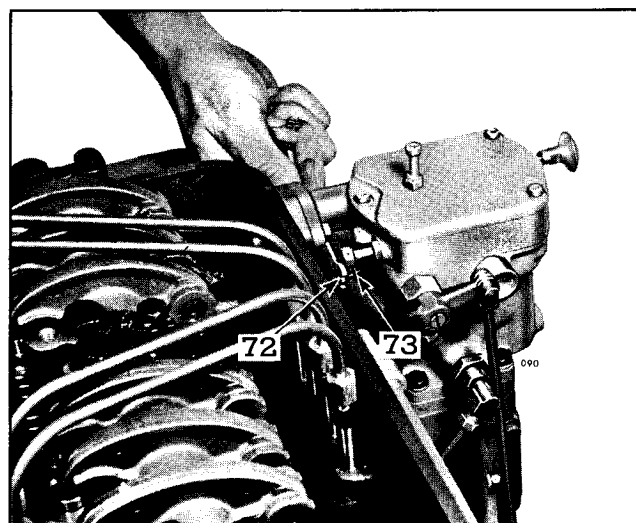

Fig. 5 - Adjusting Maximum No-Load Speed
3. Loosen lock nut (73), Fig. 5, and back off maximum speed adjusting screw (72) approximately 5/8".
2. Turn maximum speed adjusting screw (72), Fig. 5, in until engine is operating approximately 8% above the rated full-load speed.
3. Hold screw and tighten lock nut (73). Install governor cover.